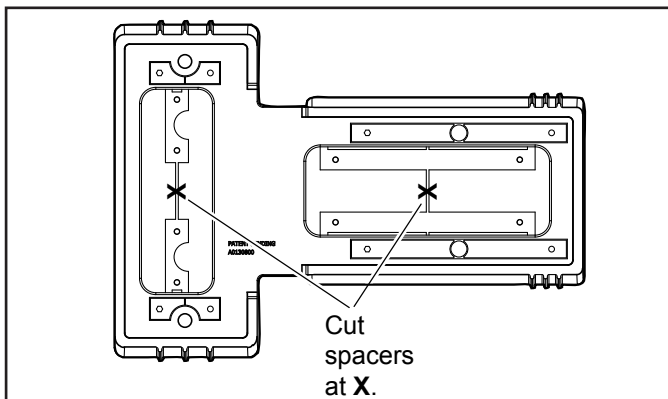

Figure 6. Cut Sets of Spacers Out of Base
- Using a hand cutter tool, cut the plastic bars connecting the top and bottom sets of spacers, as shown in Figure 6.